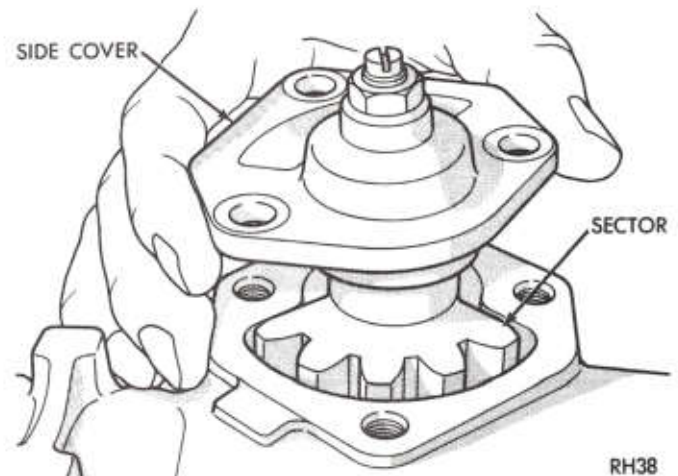
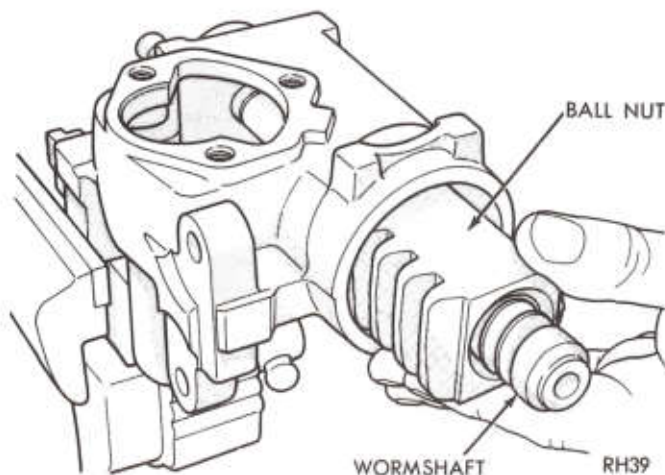

Fig. 4—Remove Sector Shaft Assembly
Fig. 5—Remove Ball Nut and Wormshaft
(1) Attach steering gear to holding fixture Tool C-3323 and install holding fixture in a vise. If fixture is unavailable, clamp vise jaw on mounting lug.
(2) Rotate wormshaft from stop to stop, counting the turns, then turn back exactly half way, placing it on center.
(3) Loosen sector shaft adjuster screw locknut and remove cover to housing bolts.
(4) Lift the side cover and sector shaft assembly from the gear housing. Using a plastic hammer, tap lightly on the end of the sector shaft to aid in removal (Fig. 4).
(5) Loosen wormshaft bearing adjuster locknut and remove wormshaft bearing adjuster assembly including one bearing and one race.
(6) Remove the wormshaft and ball nut assembly from the housing (Fig. 5).